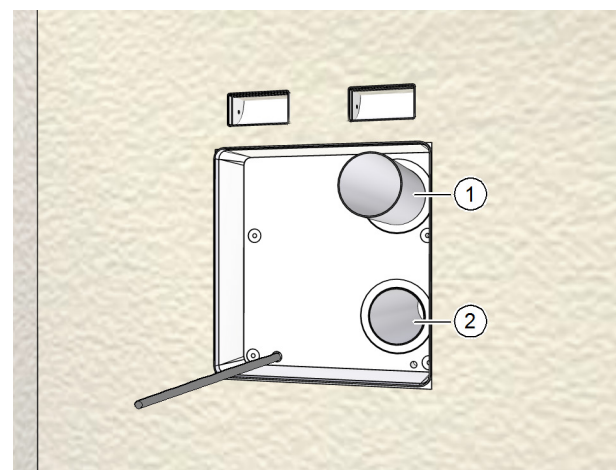

Fig. 27: Inserting the ventilation pipes
- ▶ Push the two ventilation pipes (item 1 in Fig. 27) into the openings in the wall box until they end flush (item 2 in Fig. 27).